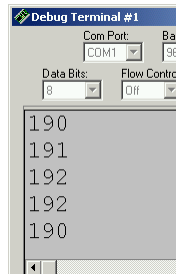

Figure 7-5
- ✓ Verify that there is a single column of values scrolling down the Debug Terminal. Figure 7-5 shows an example.